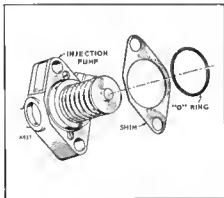

FIGURE 3-16. SHIMMING THE PILOT
1. Slide shim or shims (using proper thickness of shims for correct timing) over pilot until they are flat on pump flange. See Figure 3-16